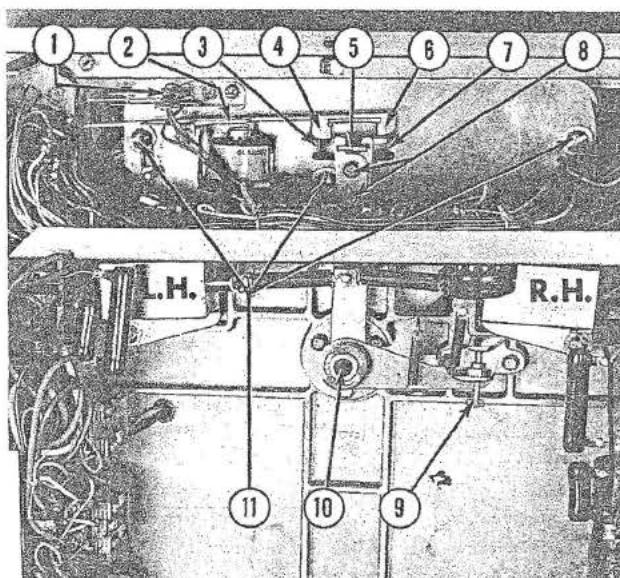
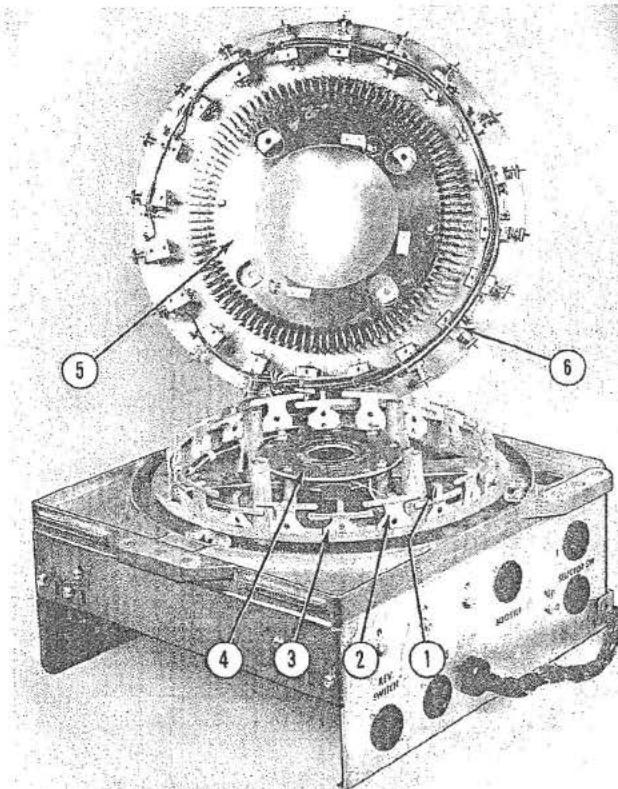
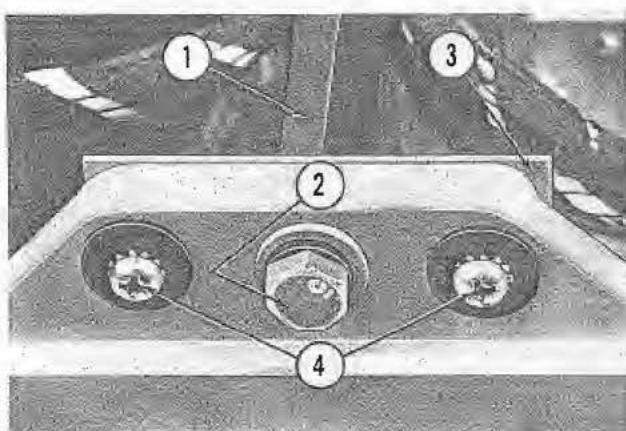
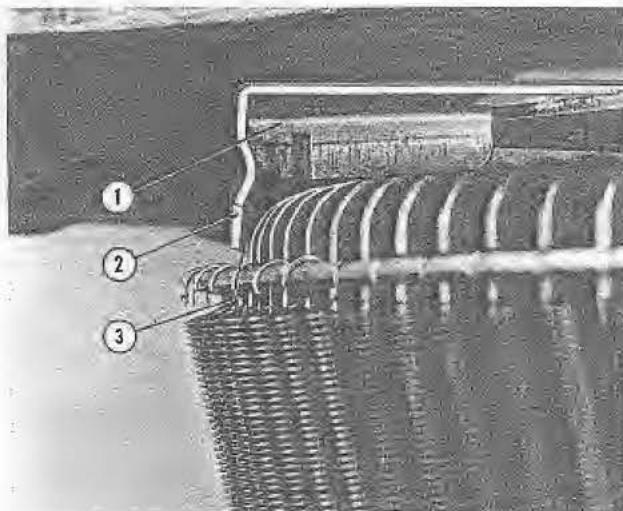

Fig. 33. ELECTRIC SELECTOR, 2410
Fig. 35. ELECTRIC SELECTOR ASSEMBLY, 2410
Fig. 39. GUIDE PLATES AND MOUNTING
Fig. 40. ELECTRIC SELECTOR CENTERING
(1) The adjusting screws (Fig. 33, Item 8) should be loosened and the guide plate set to zero clearance with the stop bracket (Item 5) on the rocker plate assembly.
(2) The adjusting screw (Item 9) should be set to align the tips of the rocker arms (Fig. 35, Item 1) with the selector pins number 3, A through
(3) Loosen the three mounting screws (Fig. 33, Item 11) and manually move the rocker plate until the stop bracket (Item 5) rests against the extreme right hand stop (Item 7). In this position the tips of the rocker arms (Fig. 35, Item 1) should align with the selector pins number 1, A through K and pins number 6, A through K. The mounting plate held by the screws (Item 11) may be moved to provide the correct alignment.
(4) Check the rocker arm alignment while holding the rocker plate in the extreme left hand stop position (Item 3). The tips of the rocker arms should be in alignment with selector pins number 5, A through K and pins number 0, A through K.
The stop magnet switch (Fig. 33, Item 1) should be set to provide a $1/32"$ gap at the normally open contacts and have a $1/32"$ wiping action when the switch is actuated. They should be adjusted to make before break.
j. Centering of the 100 selection selector pin assembly normally is not required if the original assembly is retained with its changer. The mounting is the same as the 104 assembly. However where selector pin assemblies are interchanged on the 100 selection changer the guide plates, one of which is shown in Figure 39, Item 3, should be loosened. The assembly loosely mounted on the three studs and centering shaft #69247 inserted through the center bushing (Fig. 33, Item 10) into the main shaft. Tighten the guide plate retaining screws and the three mounting screws. Remove the centering shaft and check the selector crank arm adjustments and for correct selections.
k. Centering of the 104 selector pin assembly has been carefully done at the factory and if the original assembly is kept with its changer it will not need recentering provided the alignment plates, one of which is shown in Figure 39, Item 3, are not disturbed. The assembly may be easily removed by disengaging all cable plugs and removing 3 mounting screws (Item 2). The screws (Item 4) should not be loosened. However, if a selector pin assembly should be mounted on another changer the alignment plates must be loosened. The pin assembly should be loosely mounted on the 3 studs and the centering clip (Fig. 40, Item 2) snapped in place on the selector crank arm (Item 1). Shift the pin assembly on its mounting studs to obtain a uniform clearance between the centering clip and all selector pins (Item 3). Tighten the alignment plate retaining screws and the mounting screws. Check the selector crank arm adjustments and for correct selection.